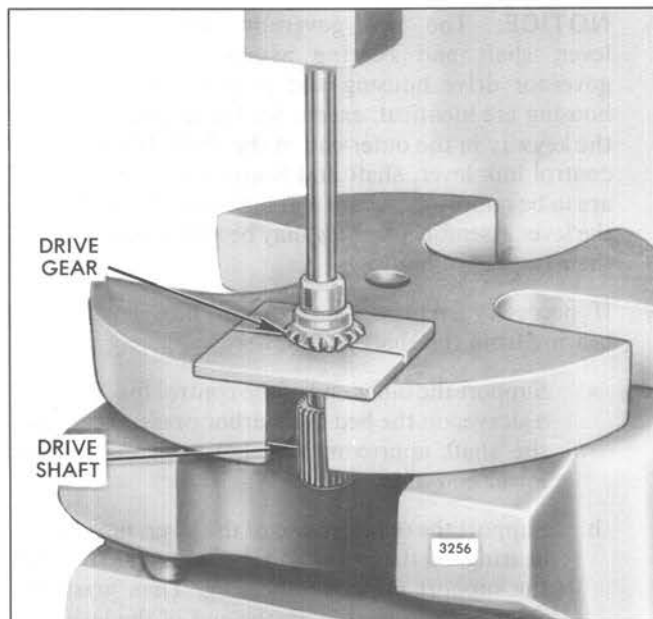

Fig. 14 – Removing Drive Gear from Drive Shaft
- c. Place two split brass plates beneath the teeth of the drive gear, then support the assembly on the bed of an arbor press (Fig. 14). Place a brass rod on the end of the drive shaft, then press the drive shaft from the drive gear. Catch the drive shaft by hand when pressed from the drive gear.